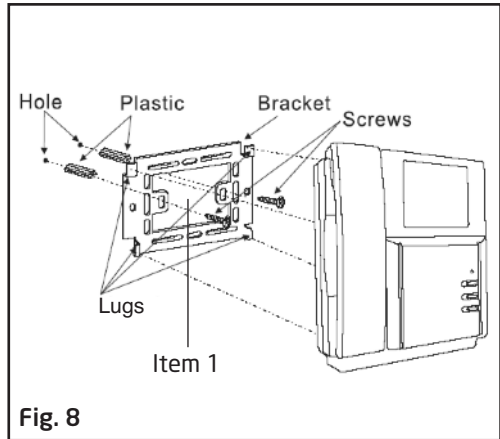

Fig. 8
- Feed the cable from the local transformer and the external call button through the center opening see Fig. 8 item 1.
- Locate the 4 lugs on the metal back plate, one located on each corner see Fig. 8, these lugs must fit into the recesses on the rear of the handset.
- Slide the handset down into position engaging the 4 lugs on the back plate into the recesses of the handset see Fig. 8.